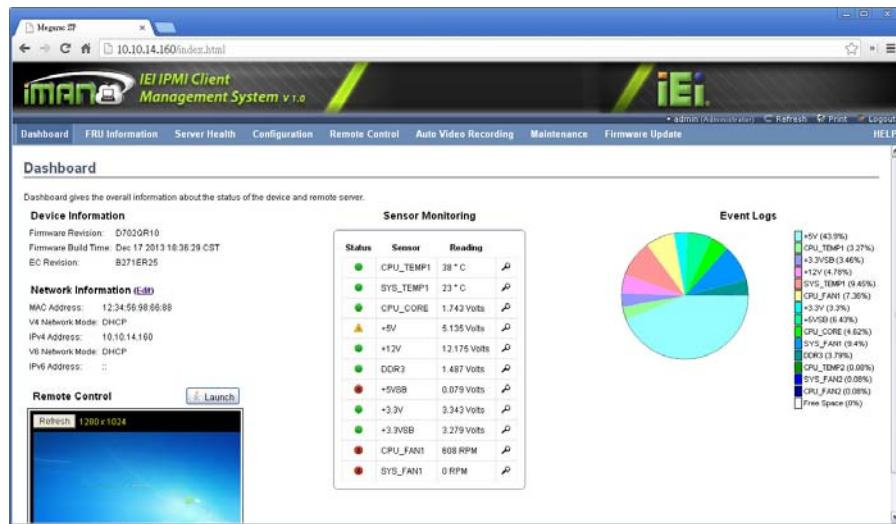

Figure 4-27: IEI iMAN Web GUI
Step 6: The IEI iMAN Web GUI appears (**Figure 4-27**).